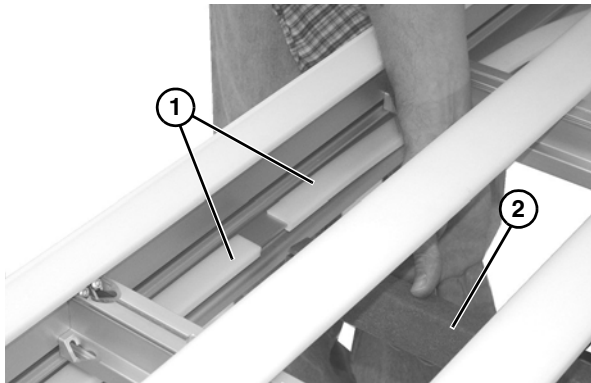

Figure 26
2. Remove lower wear strips (**Figure 26, item 1**), and if necessary, lower belt return (**Figure 26, item 2**) from lower frame assembly.